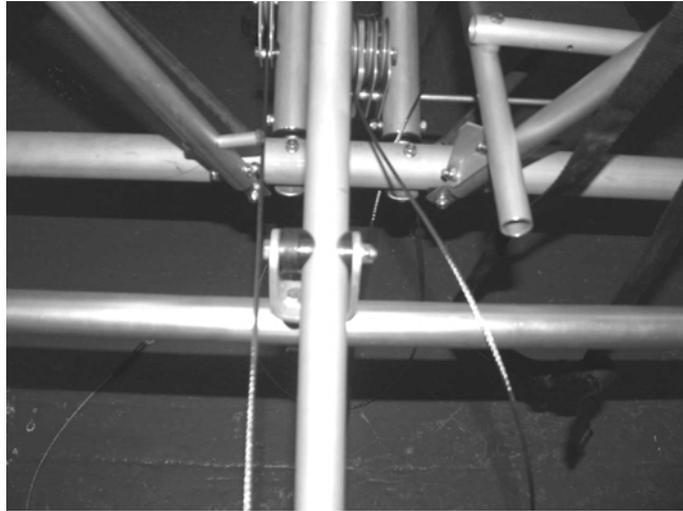

Figure 68; flap handle pivot.
- c) Fit the flap handle to the U-bracket, biasing the flap handle tube as far to the starboard side of the bracket as possible, leaving only one saddle washer between the handle and the starboard side of the bracket, Figure 68.